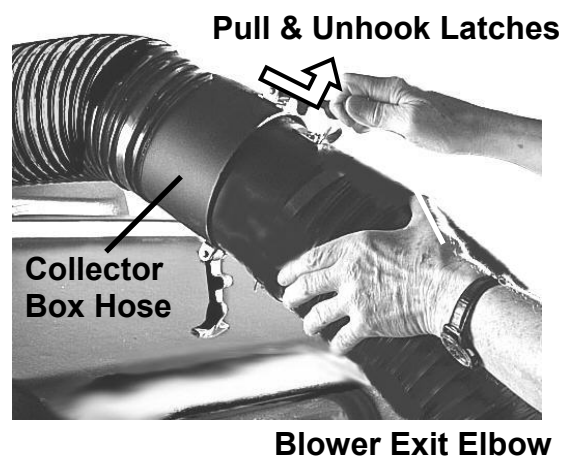

Figure 34
1. Disconnect the Collector Box Hose from the Blower Exit Elbow by releasing the two flexible latches (*Figure 34*) and separate the hoses.
2. Remove the Rear Panel of the Collector Box by releasing the six (6) fasteners located at the sides, top and bottom of the panel. Lift the Rear Panel off the mounting pins on the Collector Box Cover.